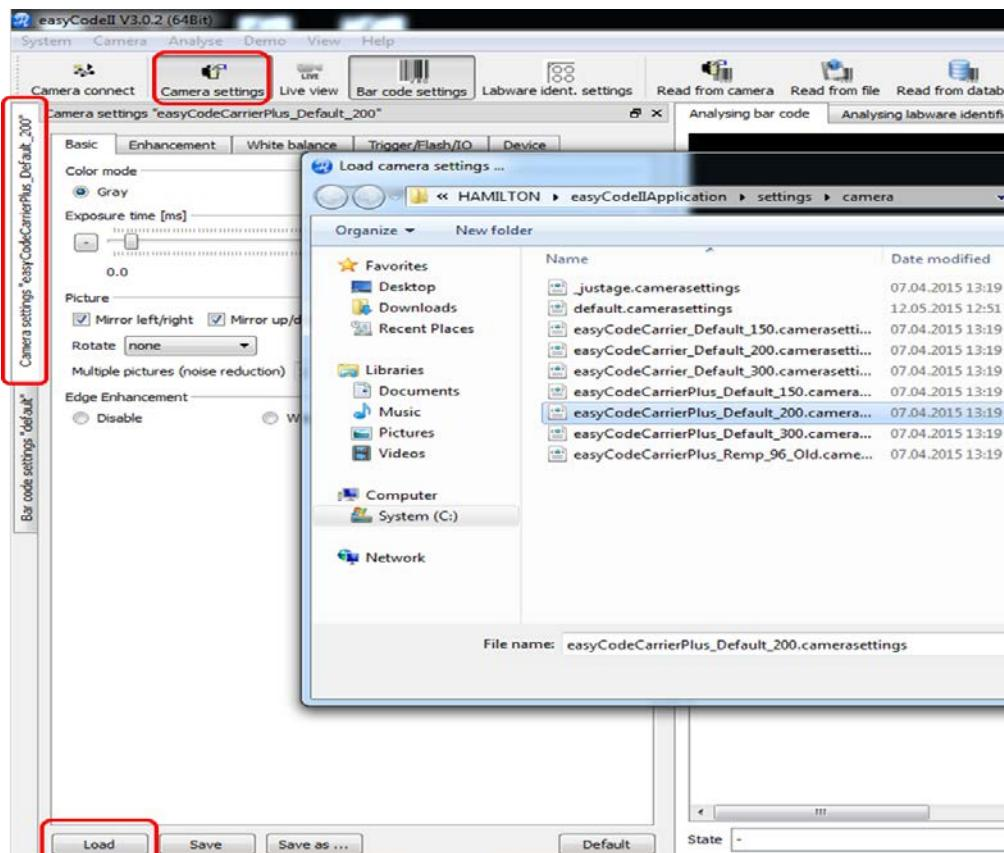

Figure 15: Load New Settings
- The “Reset window layout”: arranges the window to its startup appearance as shown in Figure 15 Load New Settings.